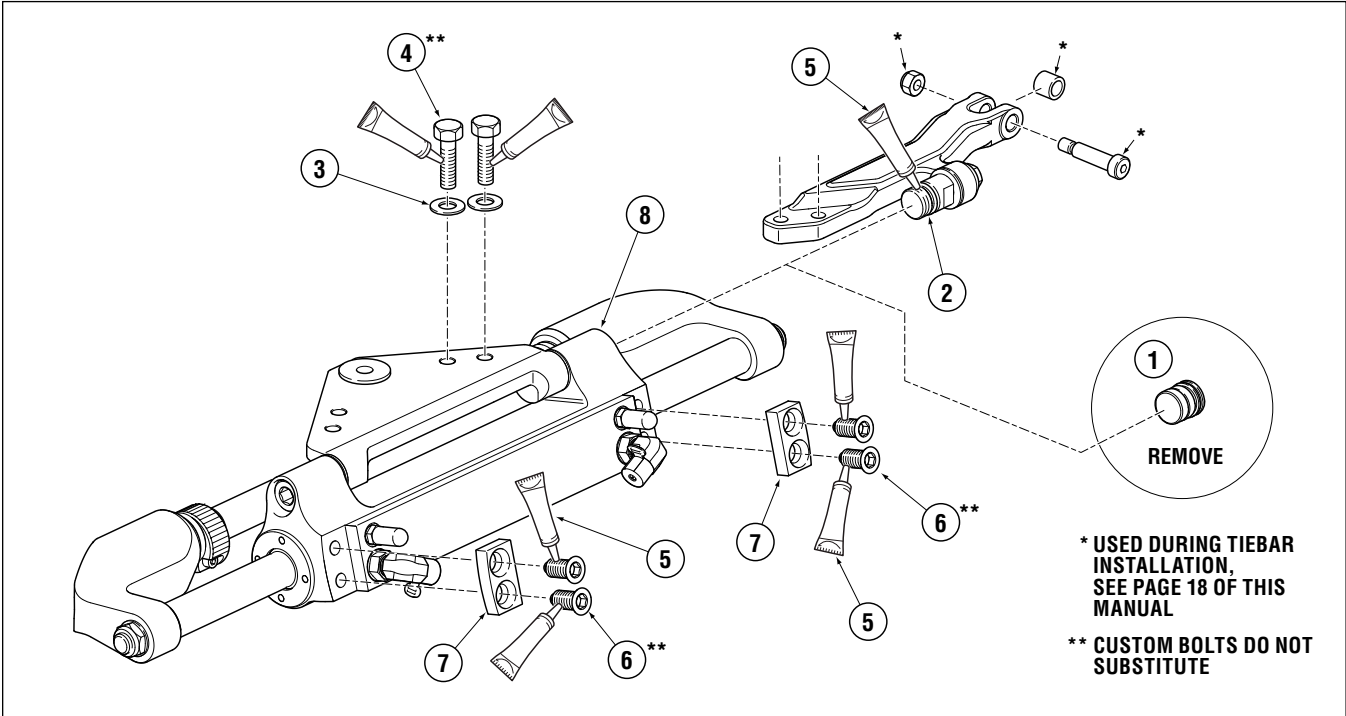

Figure 6. Twin Engine - Single Cylinder.
1. Using a 3/8" Allen Socket, remove cap plug (item 1) from cylinder.
**NOTE:** Thread locker (item 5) is included with the hardware kit.
4. Apply thread locker to the threads of item 4. Install washer and bolts torque to 20ft-lb.
5. Apply thread locker (item 5) to the threads of item 6.
6. Mount blanking pates (item 7) to both sides of the steering cylinder (item 8) as shown in figure 6.
7. Torque bolts (item 6) to 50 ft-lb.